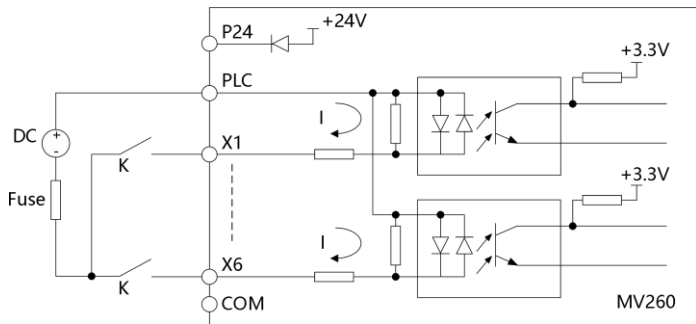

Fig.3-12 The wiring mode when using the external power supply
② When using the external power supply (Which shall meet the UL CLASS 2 standard, and 4A fuse shall be installed between the power supply and the interface), the wiring mode is as shown in Fig.3-12 (be sure to remove the short circuit plate between PLC and P24).